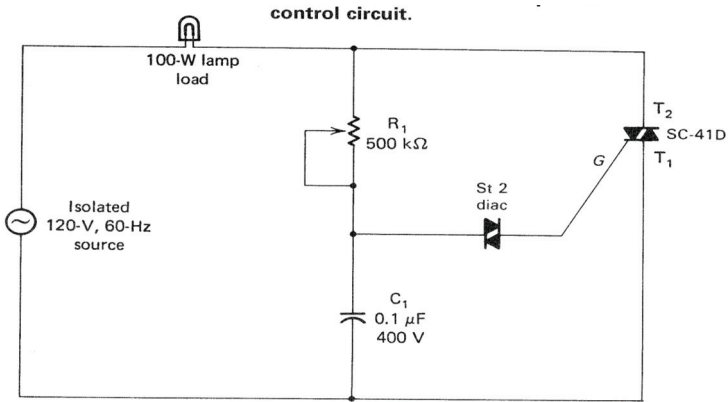

Figure 12.20 Full-wave triac power control circuit.
An elementary full-wave AC power control circuit employing a diac and a triac is shown in **Figure 12.20**. The diac is used in an RC circuit to trigger the triac into conduction. Operation is based on the polarity of the applied AC source. The circuit is connected so that T_2 and the gate of the triac are of the same polarity. The gate is connected to capacitor C_1 through the diac. Gate
In the triac circuit given in **Figure 12.20** if the conduction is delayed by 90° (in the positive half-cycle), and at 270° (in the negative half-cycle), how much power is developed by the load?
In the triac circuit given in **Figure 12.20**, if the conduction is delayed by 0° and 180° , how much power is developed by the load?
29. In **Figure 12.20**, the diac is connected so that the _____ and T_2 are of the same polarity.
30. In **Figure 12.20**, the gate voltage triggering time is determined by the values of _____ and _____.
31. In **Figure 12.20**, when the capacitor voltage (V_C) exceeds the V_{BO} of the diac, it triggers the gate of the triac to produce _____.